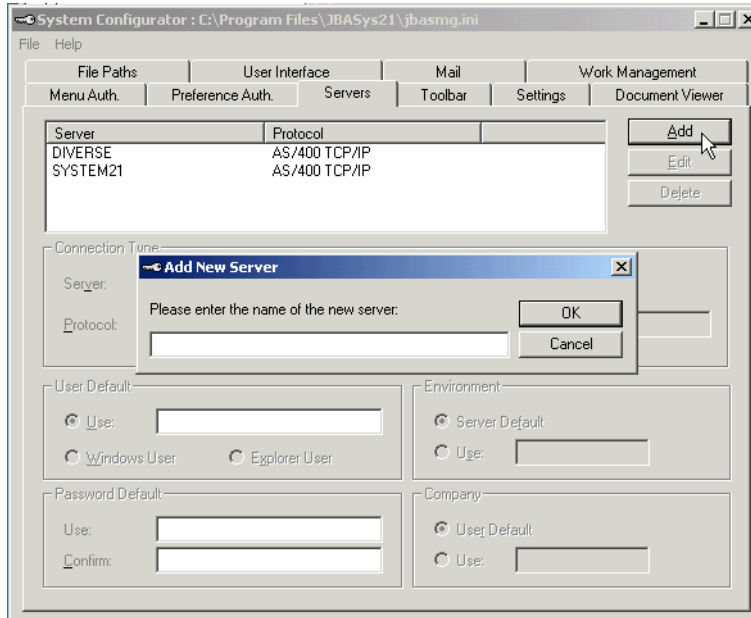

Figure 48. System Configuration tool - Add New Server
2. Select the **Servers** tab near the top of the dialog. The Servers dialog is shown in Figure 48 on page 108.